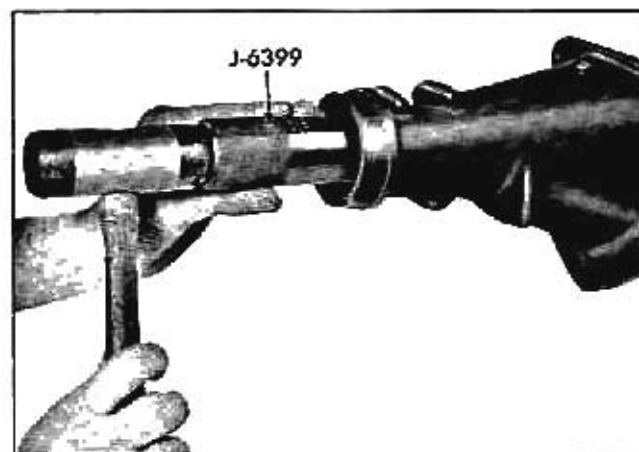

Fig. 7-44 Removing or Installing Bushing with J-6399
1. Using tool J-6399, drive bushing, from rear of transmission, until end of bushing is slightly below counterbore for oil seal (Fig. 7-44).
2. Using tool J-6399, drive bushing, from rear, into case extension (Fig. 7-44).